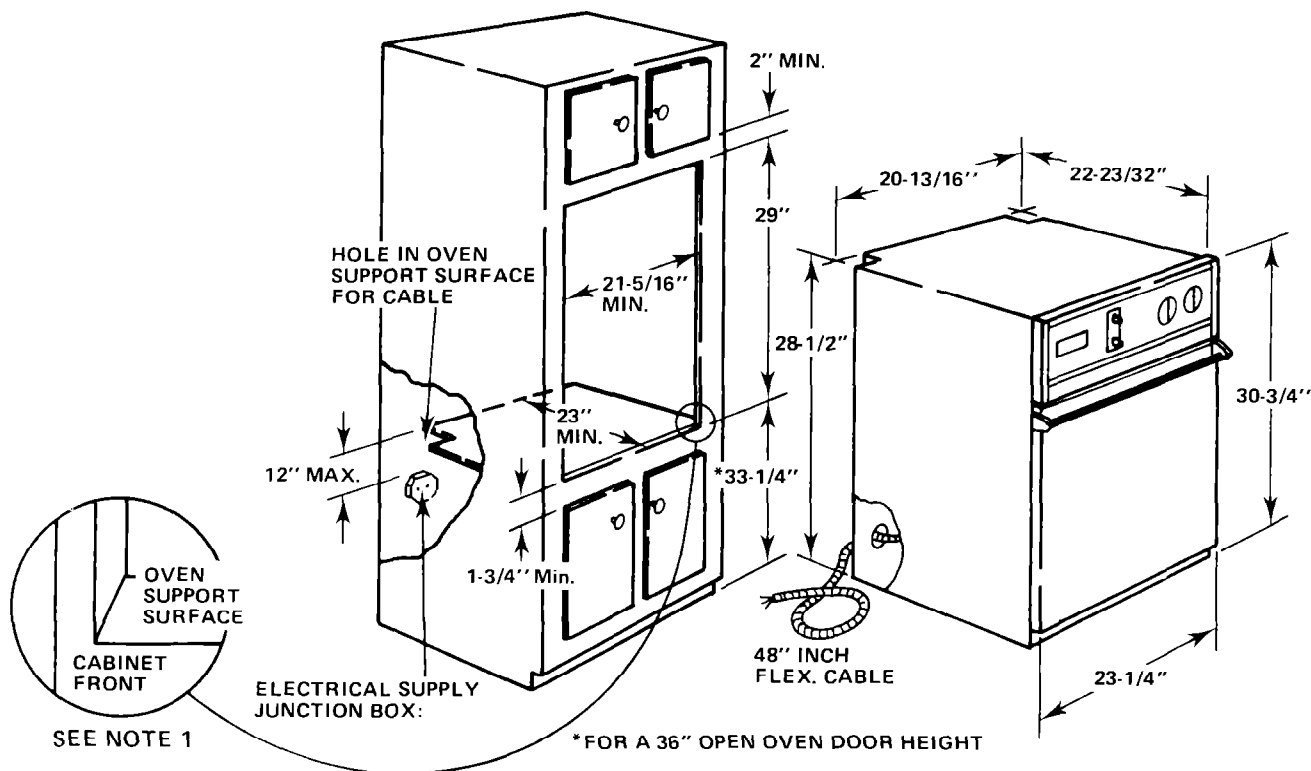

FIGURE 1—ROUGH-IN DIMENSIONS
Refer to Figure 1 for the dimensions of the oven and the space necessary to receive the oven. The oven support surface may be solid plywood or similar material but the contact surface must be level from side to side and from front to rear. This surface is 2¾" below the open door height.
- B. The appliance should be connected to the fused disconnect (or circuit breaker) box through flexible armored or non-metallic sheathed cable. The flexible armored cable extending from the appliance should be connected directly to the junction box. The junction box should be located as shown in Figure 1 so that as much slack as possible remains in the cable between the box and the appliance so that it can be moved if servicing is ever necessary.